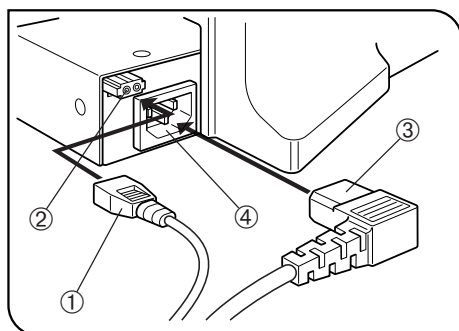

Fig. 36
**10 Connecting the Cables and Power Cord** (Figs. 36 & 37)
2. Connect the power cord connector ③ to connector ④ firmly. (Fig. 36)